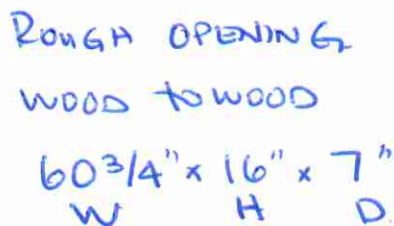

Figure 4
2. Remove the front glass assembly by removing the 2 screws (1 on the left and 1 on the right side, located just inside the top front vent opening). These screws secure the front glass panel to the inside of the fireplace. (Figure 4)